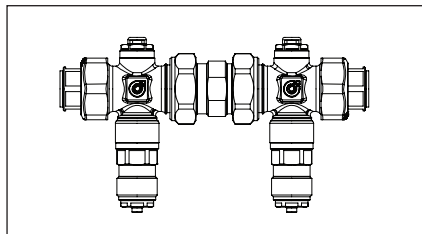

Figure 18 - Install an antifreeze drip valve inline on the cold water line to the heat pump unit, prior to the final connection to the heat pump unit.
**2** We highly recommend installing an anti-freeze drip valve in areas where ambient temperatures can drop below freezing so that the heat pump unit and piping are protected during a power outage. An antifreeze drip valve is available to be purchased as an accessory for this system. The valve will need to be installed inline on the cold water line to the heat pump unit, prior to the final connection to the heat pump unit (Figure 18). See "Complete Installation," found on page 2.